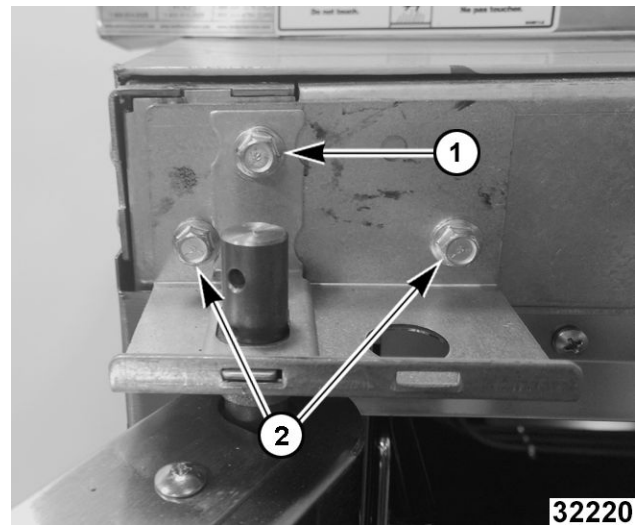

Fig. 37
3. While supporting door, remove hex bolts holding upper bearing retainer (1, Fig. 37) and upper shaft bracket (2, Fig. 37).